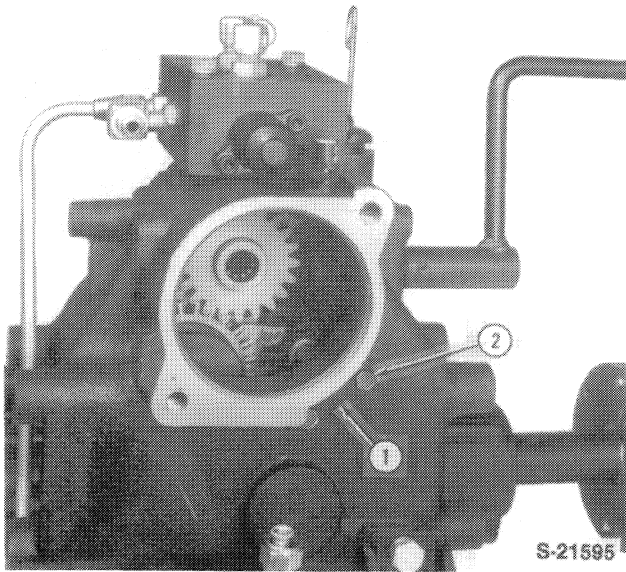

FIGURE 5-21
- 2 Bolts (2)
11. Remove the two bolts and plate, 1 and 2, Figure 5-21.